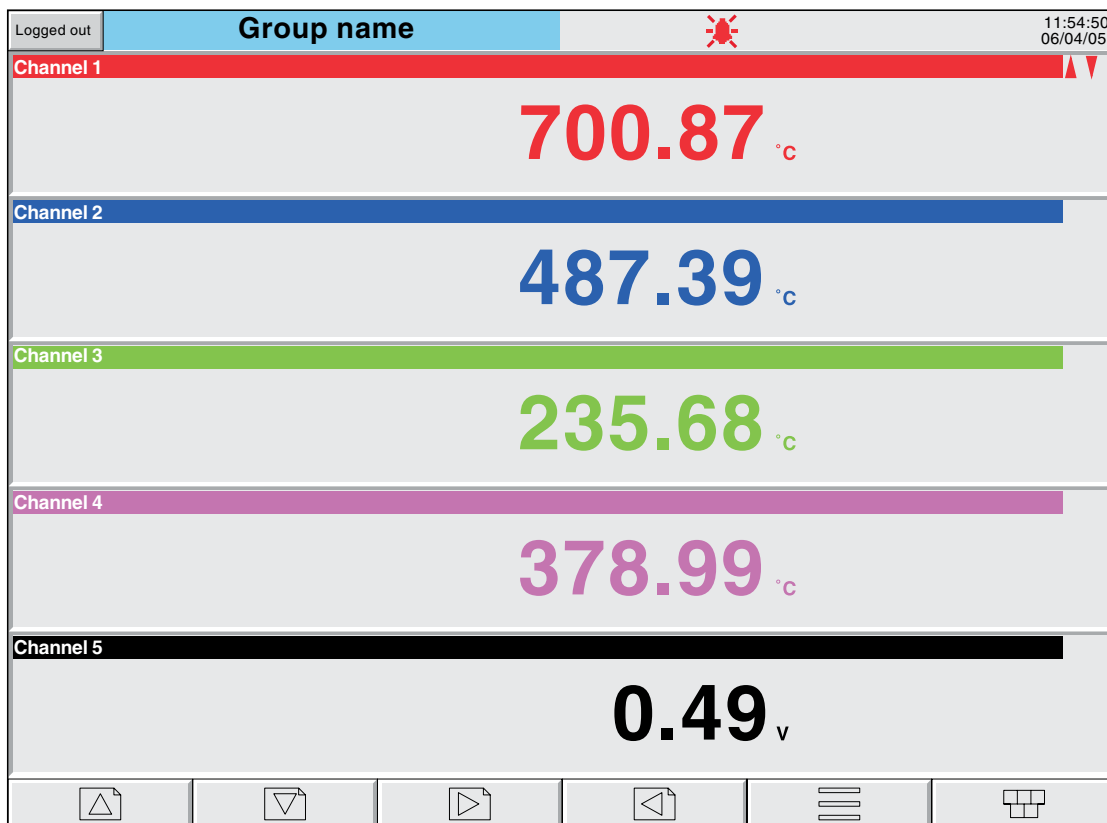
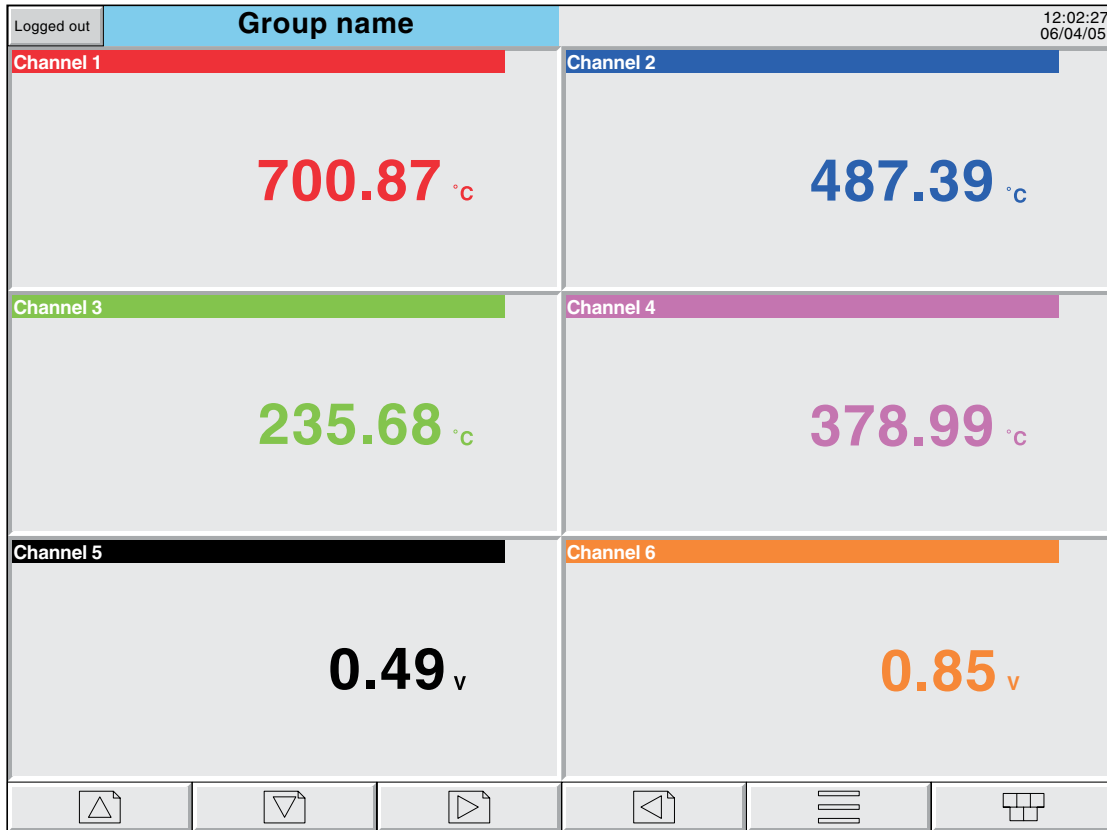

Figure 3.4.6a Numeric display mode (1 to 5 channels example)
Figure 3.4.6b Numeric display mode example (6 channels)
Entered from Horizontal bargraph mode by means of the down arrow key, or selected using the Root Menu 'Goto View' key, this display mode shows the Process Variable (PV) values as digital values. The format (which is automatically selected) is based on the number of channels in the display group. Figures 3.4.6a, 3.4.6b and 3.4.6c, show typical (large frame) examples of the one, two and three column versions of this display mode respectively. Within each version, the process variable display areas expand or contract to fill the screen.
Note: Figures 3.4.6a, b and c apply to the large frame instrument. For the small frame instrument, the single column display (figure 3.4.6a) is used for groups with up to four points enabled, and the two column display (figure 3.4.6b) is used, with scroll bar if necessary, for groups with more than four points. The small frame recorder does not employ a three-column mode (figure 3.4.6c).